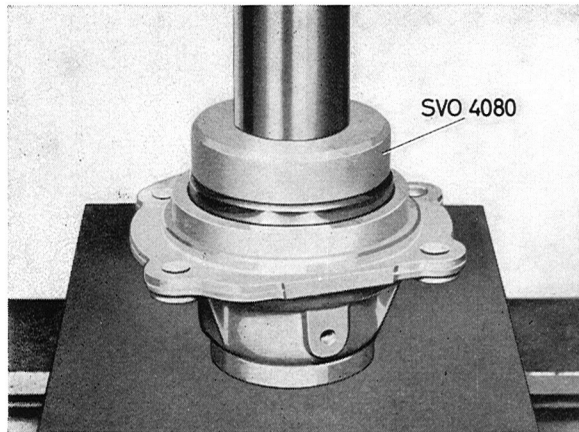

Fig. 4-32. Installation of ball bearing in rear cover
1. Press the ball bearing into the rear cover, see Fig. 4-32, and install the snap ring. There are different thicknesses of snap rings, so select one which fits snugly into the groove.